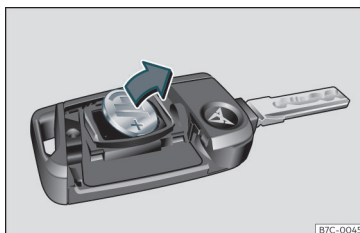

Fig. 73 Vehicle key: removing the battery.
- Extract the battery from the compartment using a suitable thin object >>> Fig. 73.
- Place the new battery in the compartment as shown >>> Fig. 73, pressing in the opposite direction to that shown by the arrow >>> ⚠.